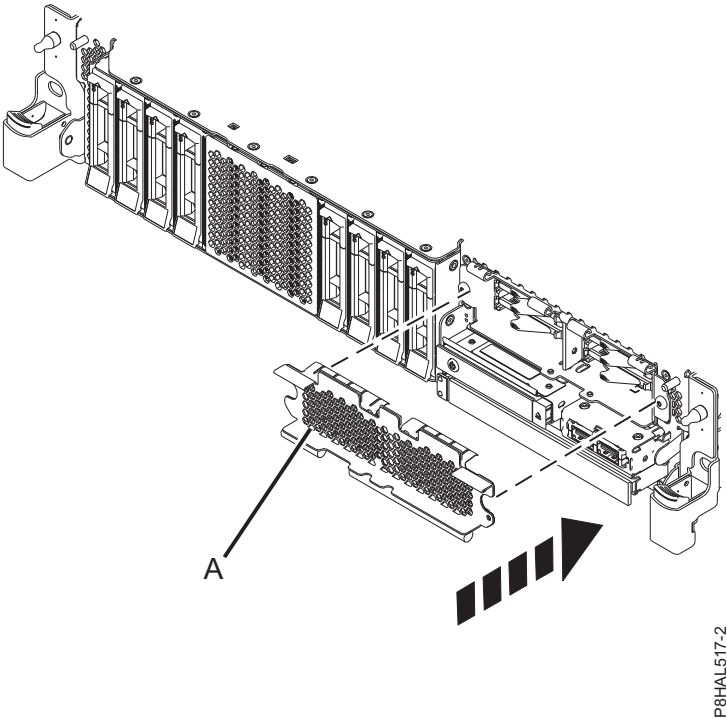

Figure 99. Covering the SSD cage in an expanded function system
- 4. If applicable, cover the SSD cage with the perforated plate (A) as shown in Figure 99.